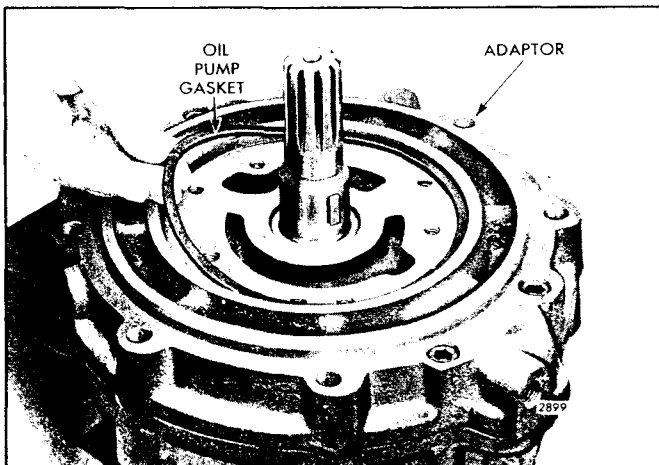

Fig. 85 - Installing Oil Pump Gasket in Adaptor
- b. Place the oil pump to gear housing adaptor gasket in the oil pump cavity of the adaptor as shown in Fig. 85.